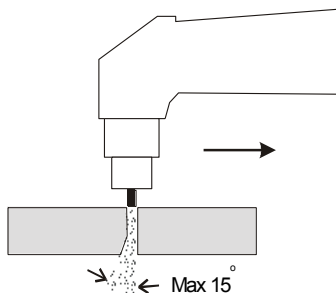

Fig. 5
1. The cutting speed is too high. Make sure the slope of the cutting arc does not exceed about 15° (see Figure 5).